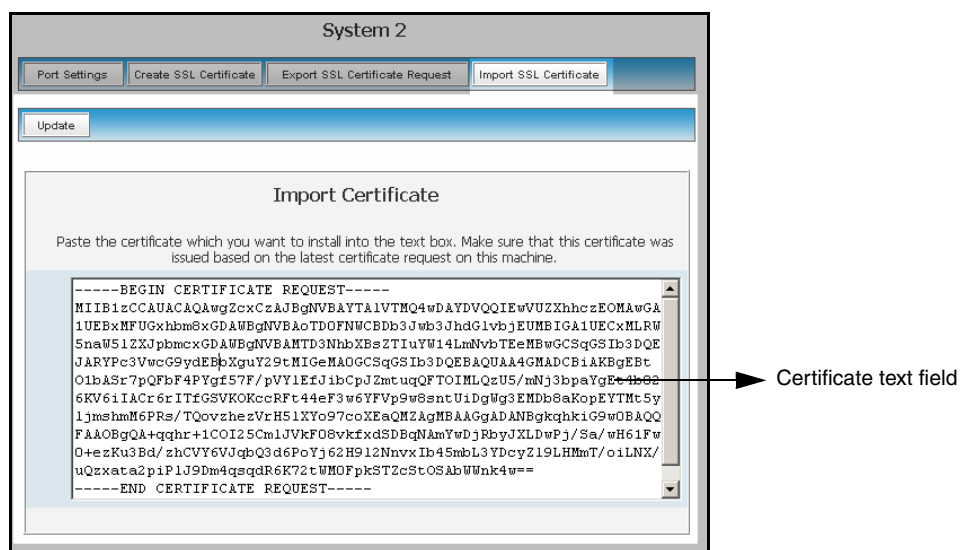

FIG. 58 Import SSL Certificate dialog
2. Navigate to the Server Certificate page by clicking **System Settings > Manage System > Server > Import SSL Certificate** to open the Import Certificate page (FIG. 58).